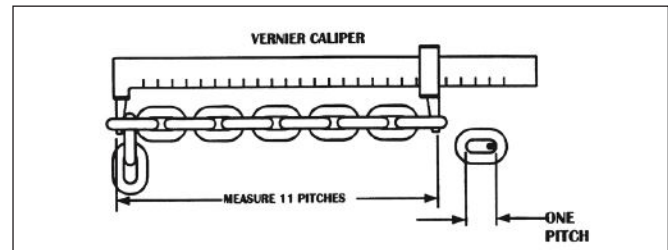

Figure 15. Gaging Load Chain Wear
4. Based upon ASME B30.16, should also be checked for elongation. Select an unworn, unstretched length of the chain (at the slack end for example). Suspend the chain vertically under tension and using a knife blade caliper type gauge, measure the outside length of any convenient number of links, 11 is recommended as shown in Figure 15. Measure the same number of links in the used sections and calculate the percentage in increased length. The chain should be replaced if the length of the used portion is more than 1.5% longer than the unused portion of the chain. Also, if the pitch of any individual link has elongated by more than 5%, the chain should be replaced.